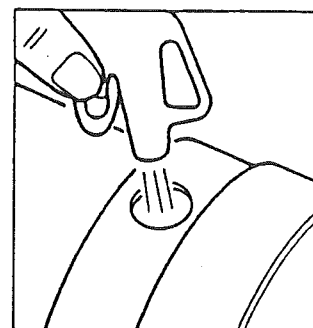

FIG. 9-3
- 3) Prepare dried compressed air (pressure: 1 kg/cm2 or lower) and blow off carbon deposit produced due to wear. Any carbon deposit, which remains, will cause deterioration of insulation between grounding and result in motor failure. Therefore, thoroughly remove any such deposit (FIG. 9-3).